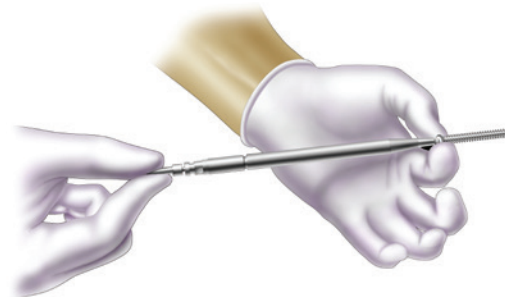

Figure 26
8. Remove the 3.2mm Silver Inner Drill Sleeve and insert the 3.5mm Hex Driver with the appropriate length 5.0mm Cancellous Screw (Figure 26) attached. The head of the screw should be nearly seated when the laser-marked ring on the 3.5mm Hex Driver is even with the Humeral Gold Outer Drill Sleeve.